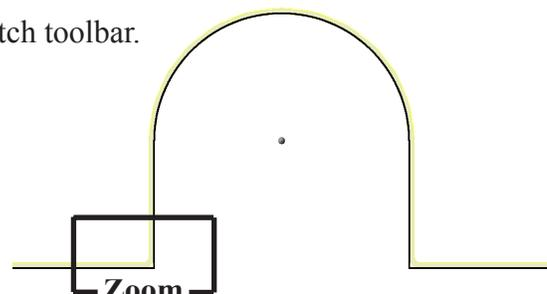

Fig. 5
Step 11. Zoom in around **corner**, **Fig. 5**. To **zoom**, place the cursor over the corner and spin the wheel on mouse back. While spinning the wheel keep cursor on corner.